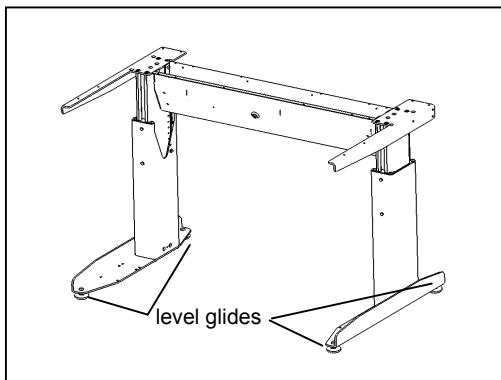
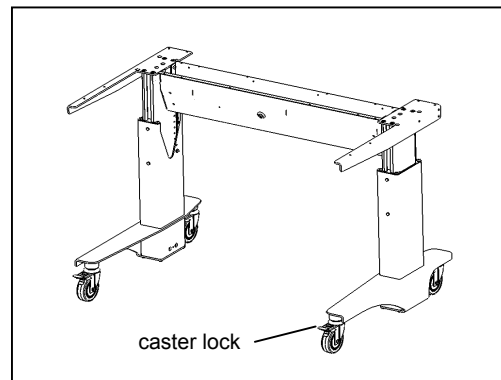

Figure 1. Glide Base.
Figure 2. Caster Base.
1. Place base in desired location. For glide bases, level the base by adjusting the four glides on the bottom of the feet (figure 1). For caster bases, apply the caster locks when base is in use (figure 2).